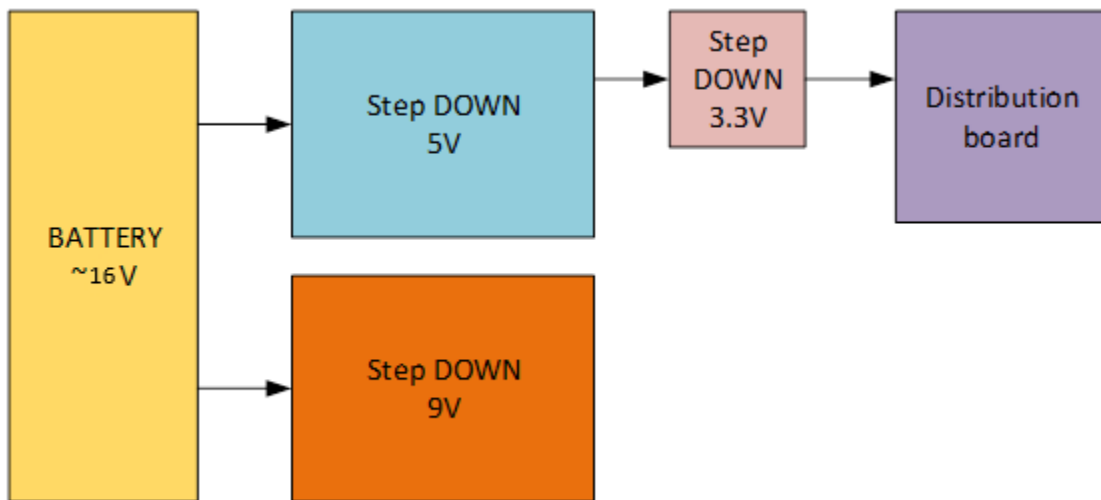

Figure 1 : Power supply diagram
- Power is distributed like noted in Figure 1 diagram while actuators are basically four DC motors with direct attached wheels (4x4 transmission)